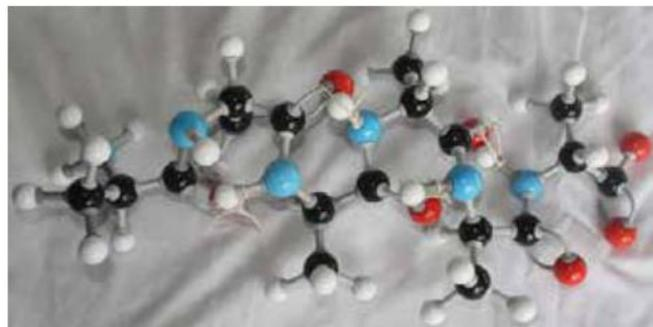

Figure 35.9: Protein secondary structure (an α -helix)
6. Continue down the chain inserting these hydrogen bonds. You will note you have to bend and force the long molecule to enable these hydrogen bonds to form. The bending and forcing is called folding. You will see that the folding is totally dependent on the location of the NH and C=O parts of the chain which ends up much smaller than when it was in a primary structure. See figure 35.9, this helix is only part of a long protein chain that might include α -helices and β -sheets as well as some of the protein in the primary structure.